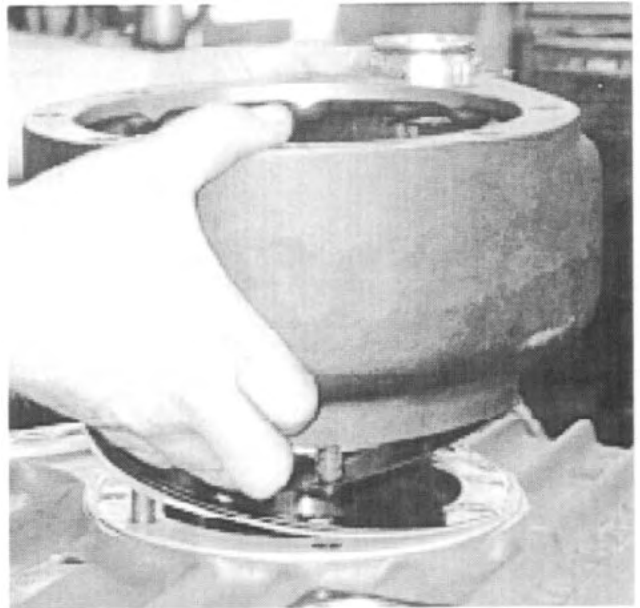

Fig. 30
27. Remove the front declutch housing, and, if required, any other gaskets, shims, caps, carriers or bearing cups. See Fig. 30.